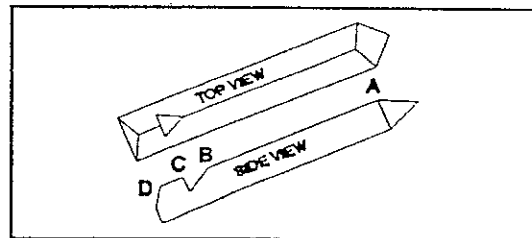

Figure 6. Tent Peg.
Admittedly, one can purchase tent pegs that are vastly superior to virtually anything one can make by hand. In fact, many modern tents don't even need pegs...particularly in calm weather. So why make a tent peg. The reason is that making a tent peg is an easy way to determine if the Scout has developed the necessary skills. It's a lot like including parallel parking in the driving test. Important parts of the tent peg (Fig. 6) are the point (A), the slot (B-C), and the chamfer or bevel (D).